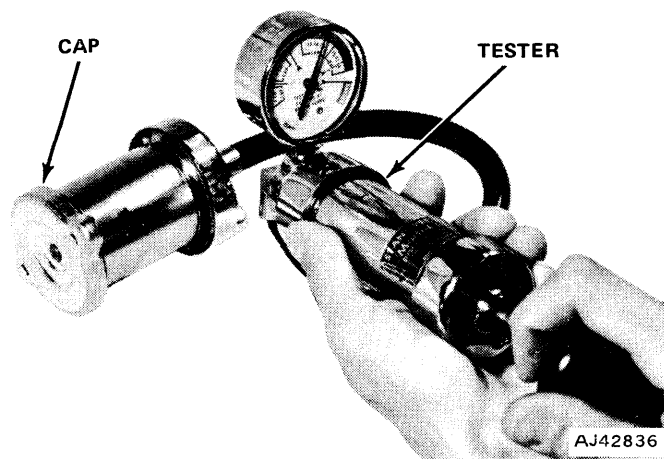

Fig. 2-8 Radiator Pressure Cap Test
(1) Remove cap from radiator.
(2) Make sure seating surfaces are clean.
(3) Wet rubber gasket with water and install cap on tester (fig. 2-8).
(4) Operate tester pump and observe needle at its highest point. Cap release pressure should be 13.9 to 18 pounds.